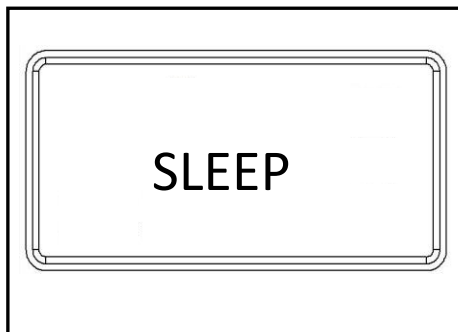

Fig.13
1. **Click Knob:** enter the standby state and “SLEEP” appears on the screen, as shown in figure 13. Click again to eliminate the state, the “SLEEP” on the screen disappears and the normal working state is displayed;